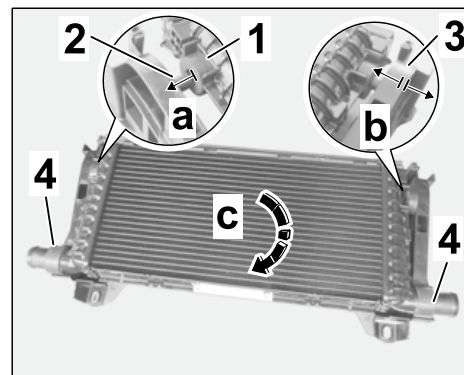

Figure 11
- 3.1.5 Push bottom rubber mounting at the left/right ⇒ *Figure 11 -1-* onto the pins of the retaining frame ⇒ *Figure 11 -2-* (⇒ *Figure 11 -a-*). Press side section of retaining frame ⇒ *Figure 11 -3-* aside if necessary ⇒ *Figure 11 -b-*. Swivel radiator back ⇒ *Figure 11 -arrow c-* until the top rubber mounting ⇒ *Figure 11 -4-* engages securely in the brackets.